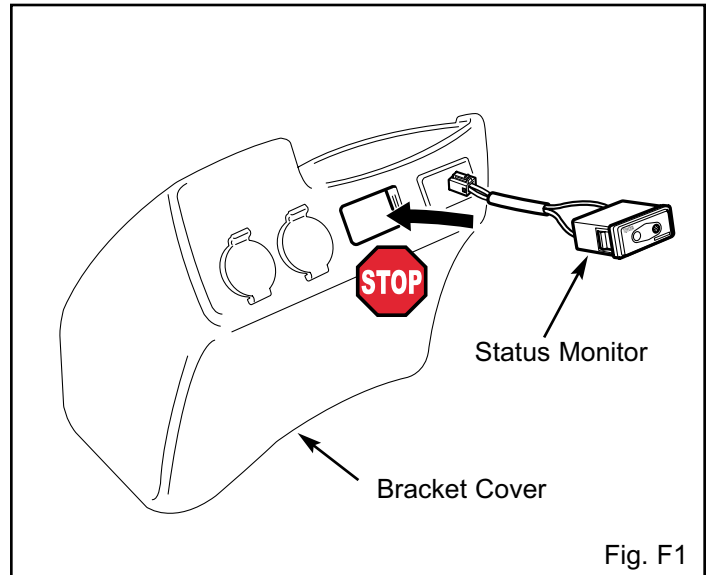

Fig. F1
1. Remove and discard the knockout cover from the bracket cover. (Fig. F1)
2. Install Status Monitor to the bracket cover. (Fig. F1)